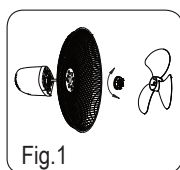

Fig.1
2. Twist the plastic nut counterclockwise. Set the rear protective guard in the correct position (handle upwards) and tighten the plastic nut. (Fig. 1).